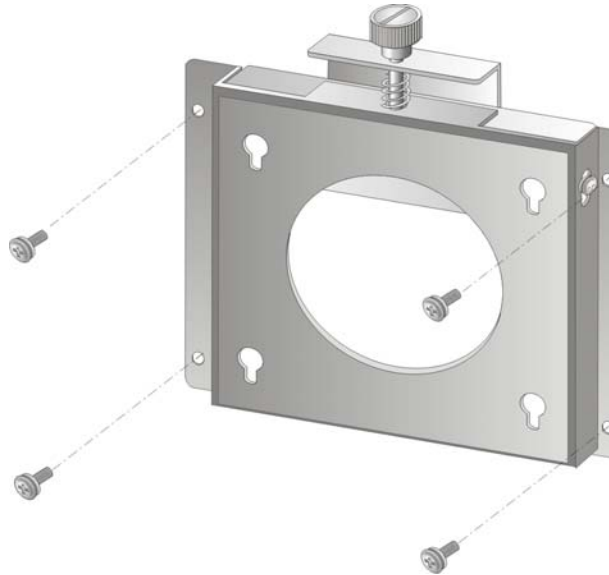

Figure 3-13: Wall-mounting Bracket
- Step 5:** Secure the mounting-bracket to the wall by inserting the retention screws into the four pilot holes and tightening them (**Figure 3-13**).